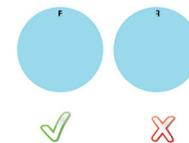

Fig.1 EndoArt® implant orientation
12. Before insertion, ensure the implant is in its right orientation: EndoArt® has a character "F" marked on the peripheral surface that should appear correctly (Fig. 1); otherwise, the implant should be overturned.